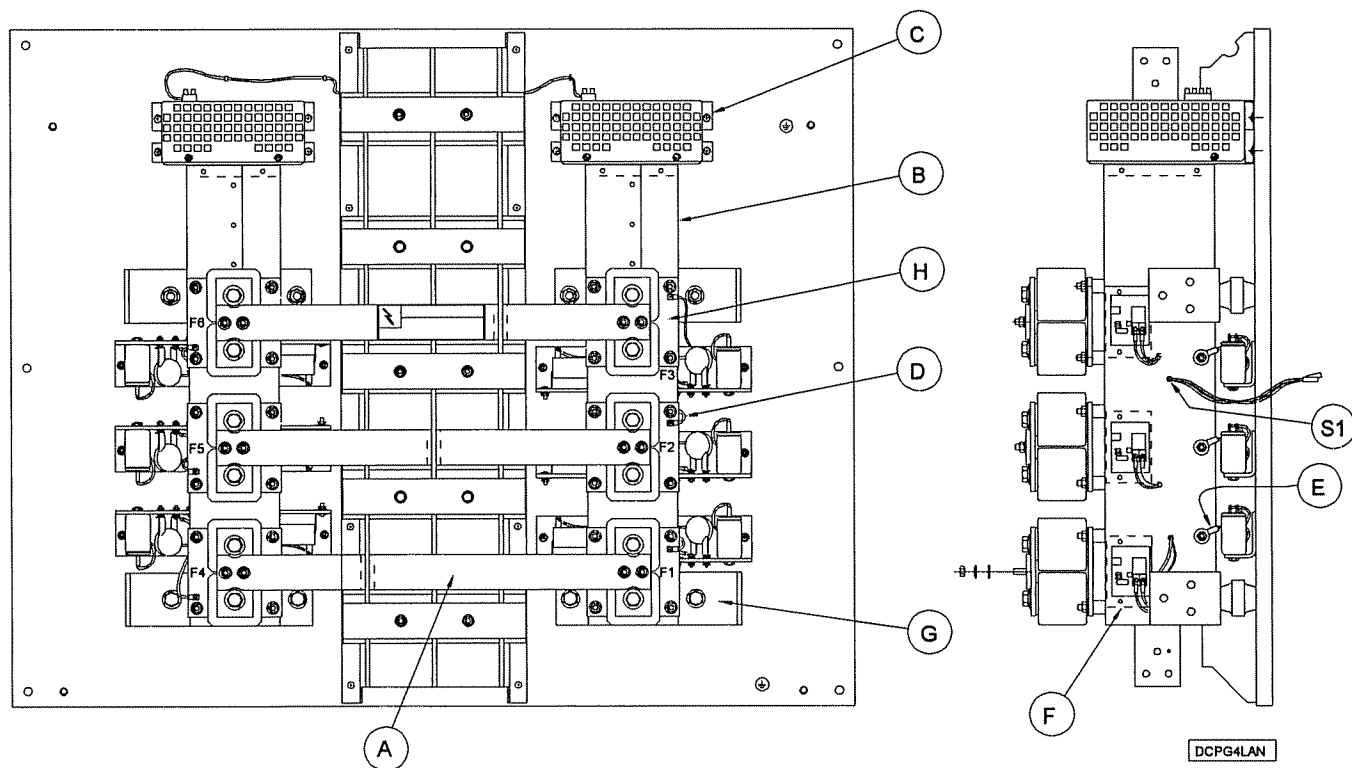

FIGURE 7-7. ARMATURE BRIDGE ASSEMBLY, 1200 AMP
3. Refer to Figure 7-7.
4. Remove bus bar (A) between main (vertical) bus bar and fuses, three locations.
5. To remove and replace any of the fuse groups* F1-F6, remove the fuse group with the fuse bus (H) attached to its far end as an assembly. Then remove and replace the fuse, being certain to follow the torque specified in Table 7-6, Torque Specifications, Armature Bridge Assembly.
6. Remove air duct insulator (B) between fan and thyristor module. (The air duct is Velcroed together on top.)